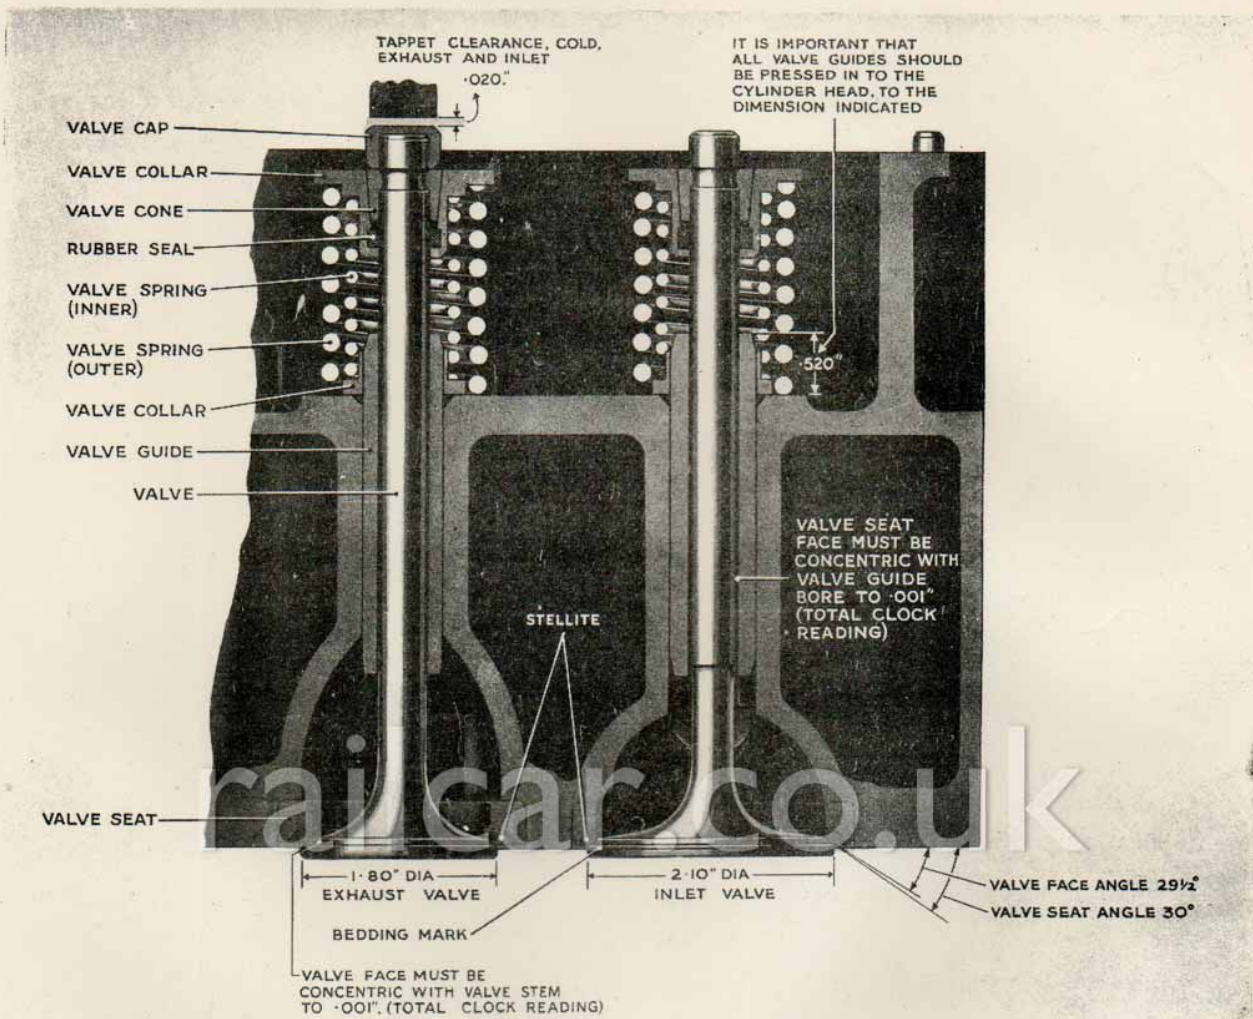

FIG. 10. VALVES AND SPRINGS IN POSITION.
Both valves are stellite-faced and have hard-chrome-plated stems. The valves can be distinguished by the difference in size across their heads, the exhaust being 1.80 in. dia., and the inlet 2.10 in. dia. (Fig. 10).
2. The valve guides are an interference fit in the heads and must be pressed in and out when replacements are necessary. See Fig.10 for position of valve guide in head.
4. When the valves and seats have been re-cut, or when the valves and seats are in good condition, they should be lightly lapped together to give a perfect seating. The seating mark should be a thin line towards the top of the seat (Fig.10).